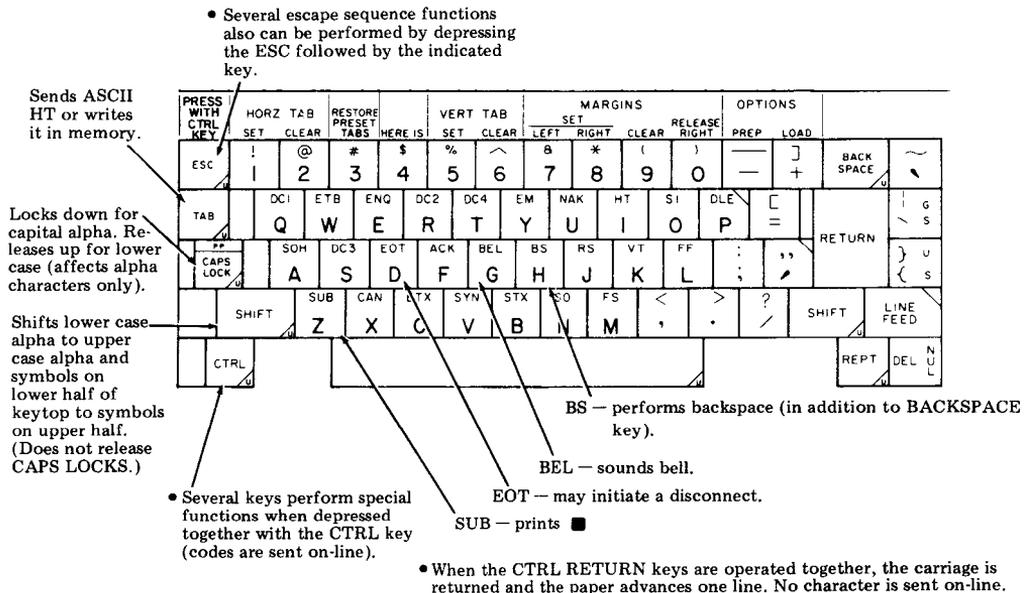

Fig. 4—Basic Keyboard Layout
2.11 The basic keyboard layout is shown in Fig. 4 along with brief descriptions on the keyboard printer operation of several special keys.